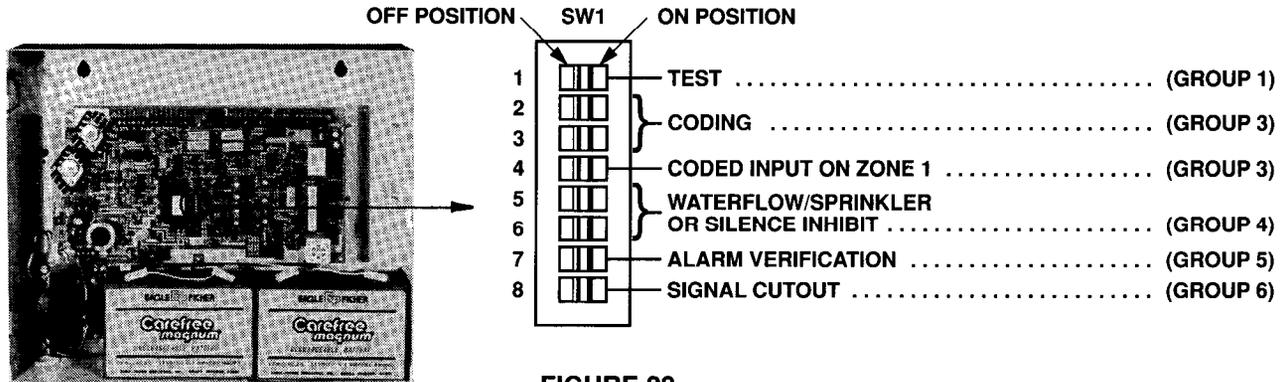

FIGURE 23
1. Go to the "OPTIONS" column in Table 4 and select one option from each of the table's six groups: TEST, CODING, CODED INPUT ON ZONE 1, WATERFLOW/SPRINKLER OR SILENCE INHIBIT, ALARM VERIFICATION or SIGNAL CUTOUT (Fig. 23).